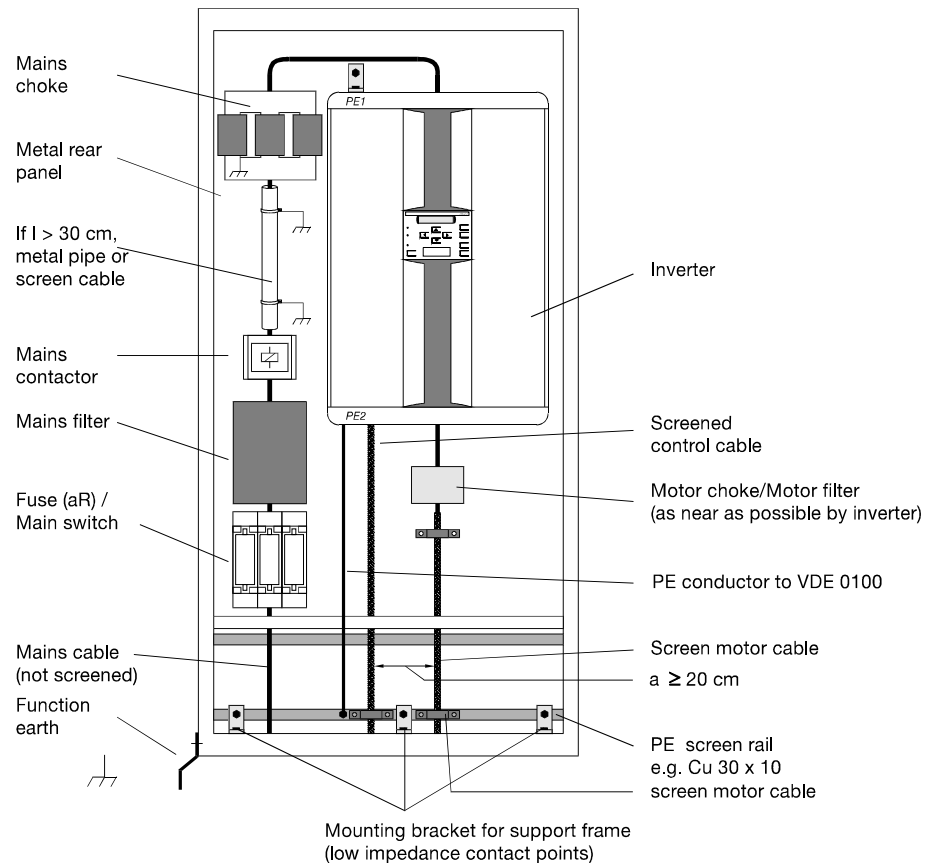

Fig.39: Example of cubicle layout, 8230 frequency inverter
Fig.39 shows an example of an ideal layout for a 8230 frequency inverter with EMC components.
The overview in Fig.39 illustrates the ideal position of components relevant to EMC.
The filtered sections of the cable between the RFI filter and the commutation choke / supply terminals in the cubicle are to be screened or laid in armoured steel pipes or metal ducts (see Fig. 39) to avoid extraneous interference, for example through the motor cable if closely spaced and ≥ 30 cm in length. Under no circumstances may the RFI filter supply and return leads be placed in the same cable duct. RFI filters generate currents. According to prEN50178/VDE0160 a PE connection of at least 10 mm² is required. If other unswitched auxiliary power circuits are included, separate filtering is to be provided (Example: Uninterruptable auxiliary voltage, auxiliary supply).
- To prevent bridging of the RFI filter in the HF range the protective conductor may not be laid past the RFI filter to PE1 on the 8230 frequency inverter mains connection. The protective conductor is then connected to the lower terminal PE2 (see Fig. 39).